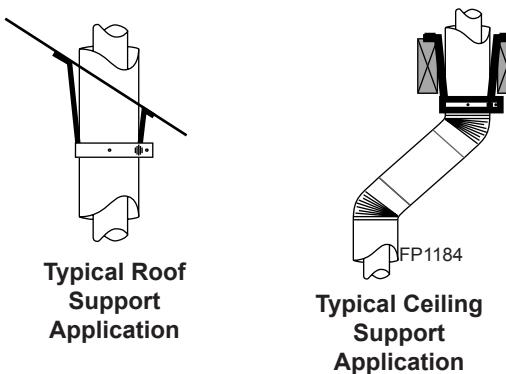

Figure 27 - Venting Supports
- 7DVCS supports offsets. *Figure 27*. This application will require that you first determine the roof pitch and use the appropriate starter kit. (Refer to Venting Components List)
7. Install roof support (*Figure 27*) and roof flashing making sure upper flange is below the shingles. *Figure 29*